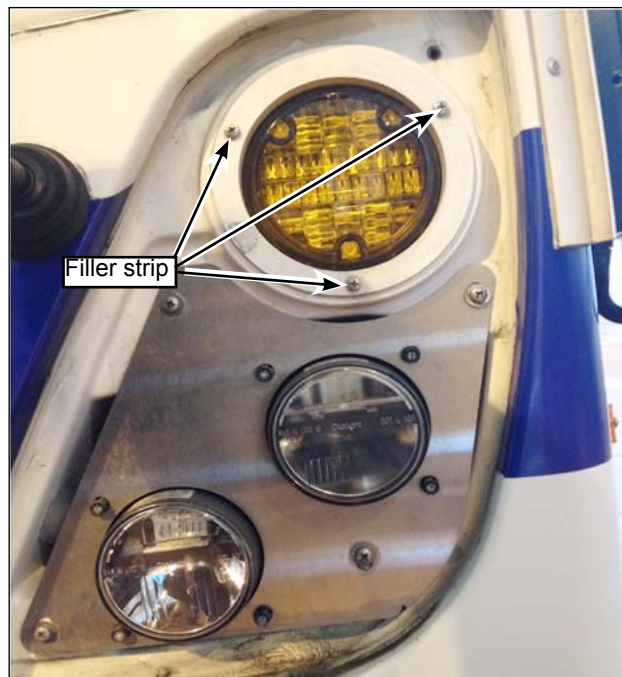

Figure 12 - Remove Marker Light Screws
- 1.12. Remove the three screws that secure the marker light and remove the marker light. Remove both sides and retain the screws for reinstallation once repair is complete (see Figure 12).